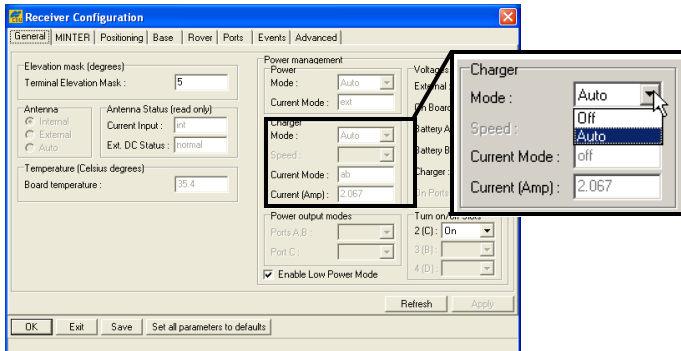

Figure 2-10. Select Charger Mode
4. Select the *Charger Mode* drop-down list to set the charger mode (Figure 2-10 on page 2-12). *Current Mode* displays the charging battery: a, b, ab, or none (off).